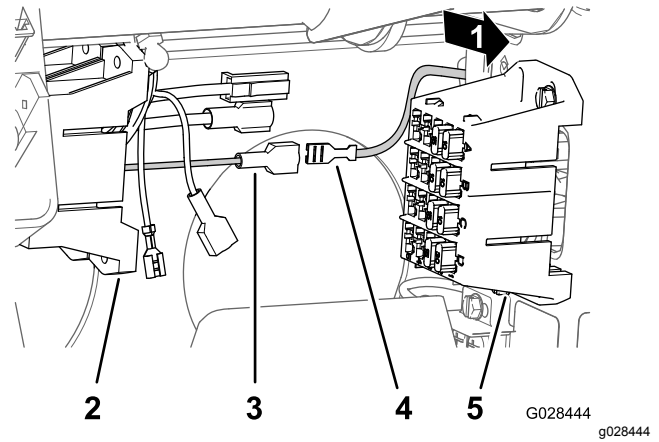

Figure 23
4. Locate the uninsulated receptacle terminal at the end of the open, yellow power wire of the fuse block for the machine and the insulated blade terminal at the end of the yellow, optional-power wire of the fuse block of the sprayer wiring (Figure 23).
5. Connect the uninsulated receptacle terminal of the fuse block for the machine to the insulated blade terminal of the fuse block of the sprayer (Figure 23).